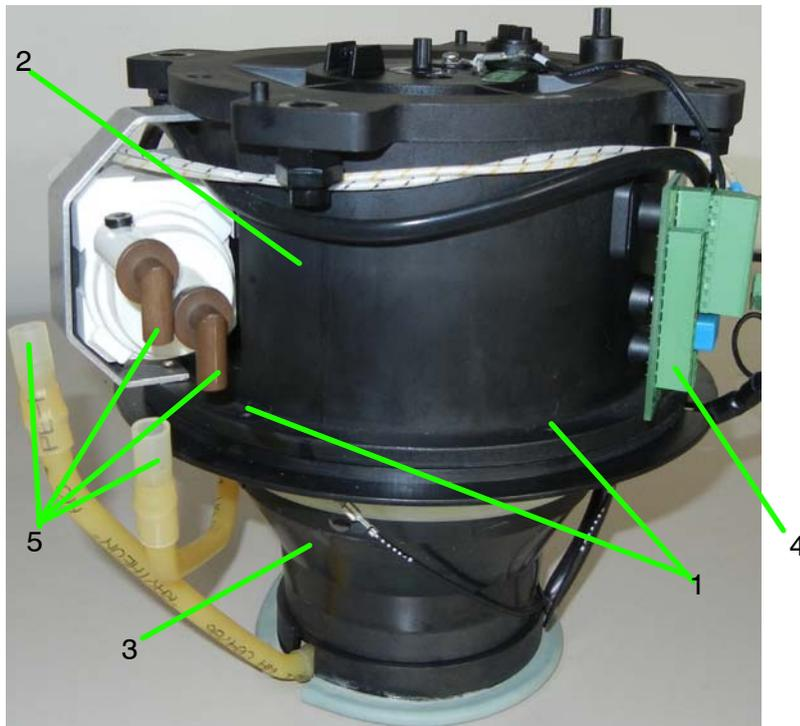

Figure 74: Outer sphere
- Screw in the six screws (see Figure 74/1).
- Insert plug B3 (see Figure 74/4).
- Connect the pipes again (see Figure 74/5).
(from the bottom of the outer sphere to the right input of the pump and from the side of the outer sphere to the left input of the pump - see Figure 74).